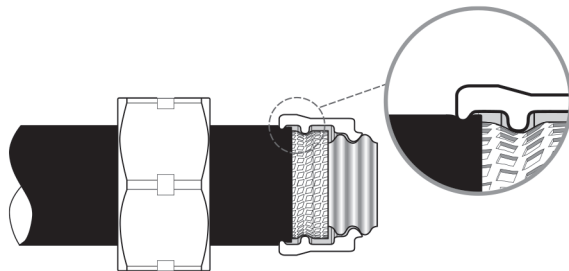

FIG. 5
STEP 3 INSTALL NUT AND BUSHINGS (FIG. 5)